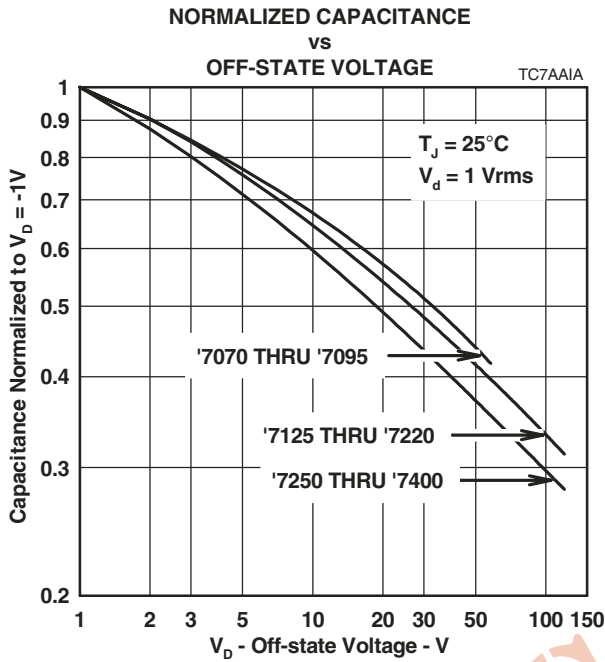
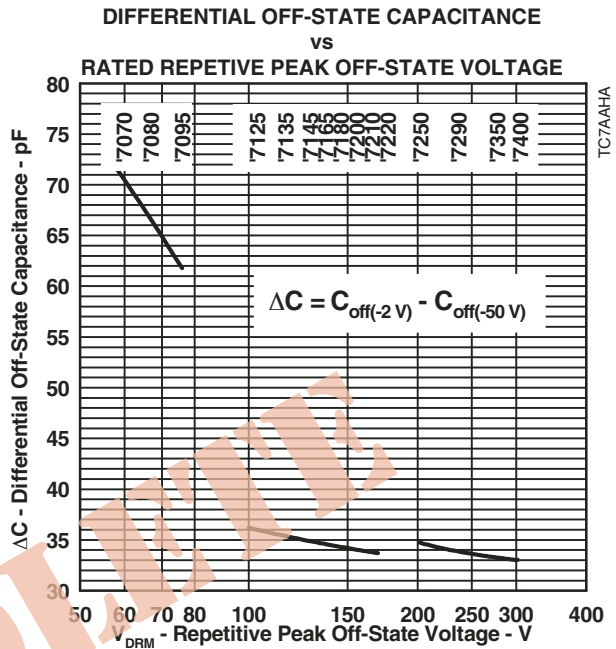

Figure 6.
Figure 7.
The protector characteristic off-state capacitance values are given for d.c. bias voltage, V_D , values of 0, -1 V, -2 V and -50 V. Where possible, values are also given for -100 V. Values for other voltages may be calculated by multiplying the $V_D = 0$ capacitance value by the factor given in Figure 6. Up to 10 MHz, the capacitance is essentially independent of frequency. Above 10 MHz, the effective capacitance is strongly dependent on connection inductance. For example, a printed wiring (PW) trace of 10 cm could create a circuit resonance with the device capacitance in the region of 50 MHz. In many applications, the typical conductor bias voltages will be about -2 V and -50 V. Figure 7 shows the differential (line unbalance) capacitance caused by biasing one protector at -2 V and the other at -50 V.